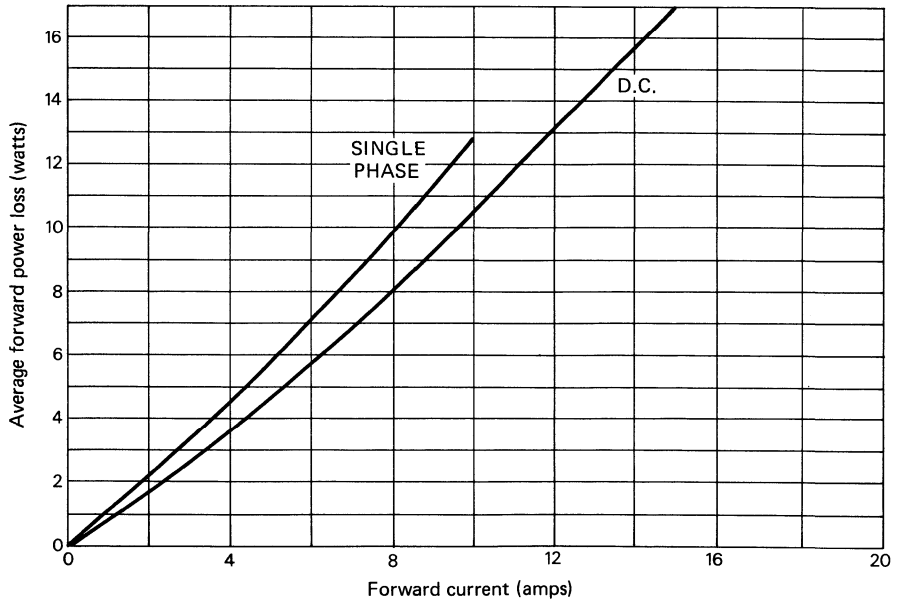

FIG. 2. Average forward power loss against forward current.
- (2) A graph of average forward power loss against forward current is given in Fig. 2.